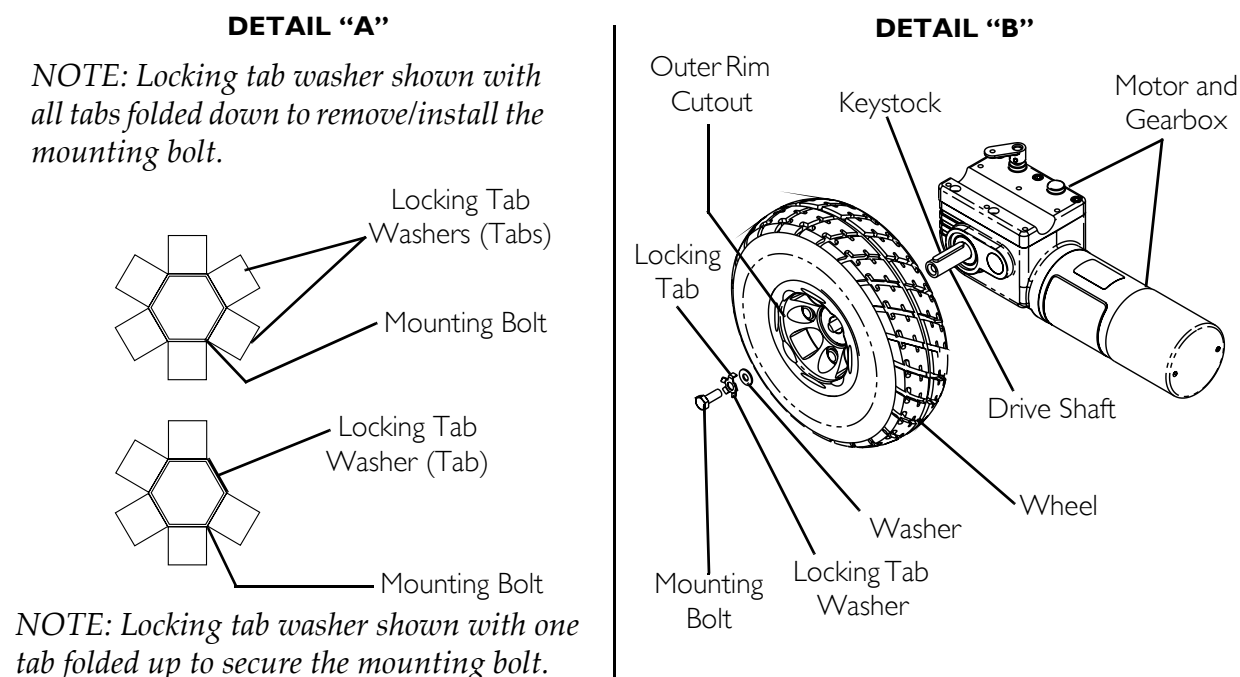

FIGURE 12.3 Removing/Installing the Rear Wheel
NOTE: For this procedure, refer to FIGURE 12.3.
1. Fold down tab of existing locking tab washer (Detail "A" of FIGURE 12.3).
2. Remove mounting bolt and locking tab washer (Detail "B" of FIGURE 12.3). Discard existing locking tab washer.
NOTE: Ensure keystone is in the cutout on the drive shaft (Detail “B” of FIGURE 12.3). The keystone MUST line up with the wheel hub cutout.
2. Align the keystone in the drive shaft with the cutout in the wheel hub and position the wheel on to the drive shaft (Detail “B” of FIGURE 12.3).
NOTE: The locking tab of the locking tab washer MUST be inserted into the cutout in the rim and hub (Detail “B” of FIGURE 12.3).
3. Using the mounting bolt, washer and new locking tab washer, secure the wheel to the drive shaft (Detail “B” of FIGURE 12.3).
4. Fold one tab of the locking tab washer up so that the tab rests against one side of the mounting bolt (Detail “A” of FIGURE 12.3).